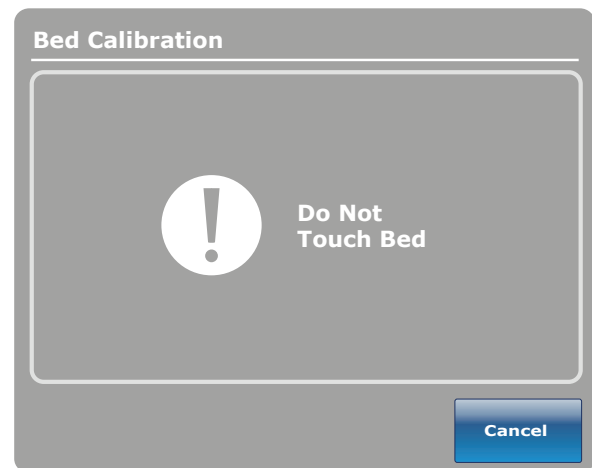

Figure 18: Do Not Touch Bed Screen
19. The "Do Not Touch Bed" screen will appear as shown in Figure 18.